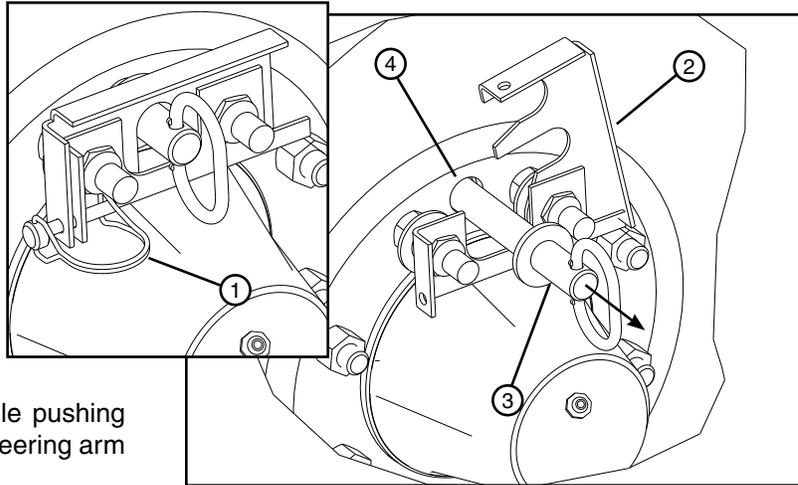

Figure 28-1 1. Lynch Pin 2. Retainer Clip 3. Torque Pin 4. Hub Torque Pin Receiver
4. Remove lynch pin from retainer clip, then open retainer clip and pull the torque pin from axle torque arm behind gearbox hub and hub torque pin receiver. See figure 28-1.